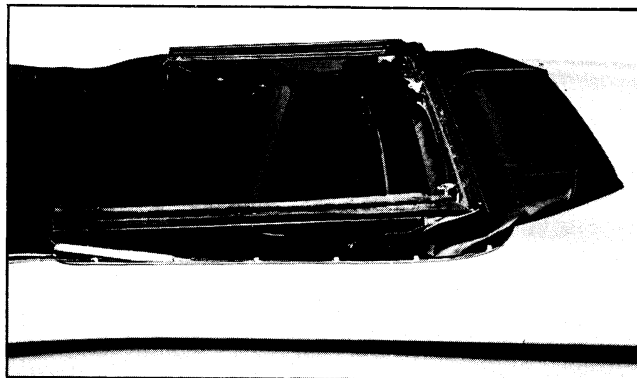

Fig. 22-11 Fold Corners of Top Material
4. Fold over corners of top material (Fig. 22-11).